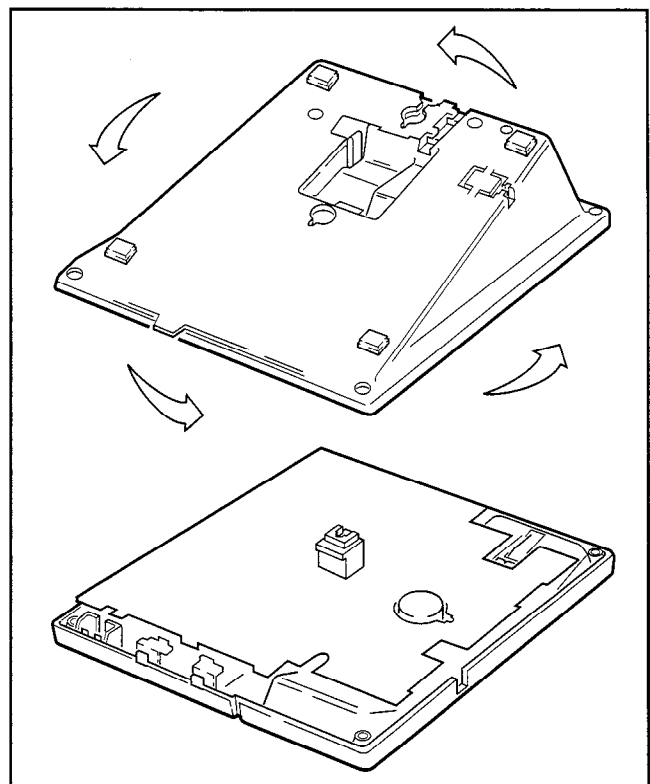

FIGURE 6-3
- 3) Rotate the telephone base 180 degrees and secure it to the telephone with its four captive screws (Figure 6-3).